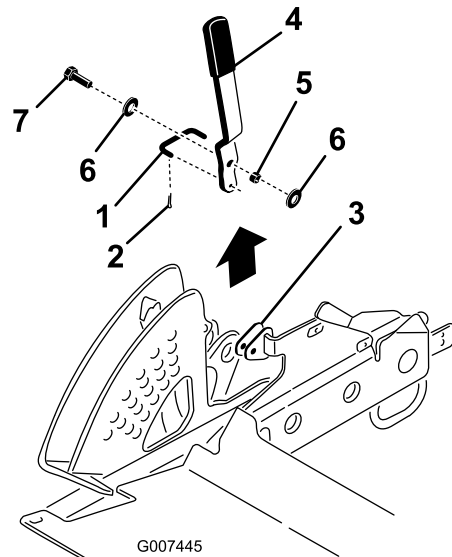

Figure 4
2. Remove the cotter pin securing the valve link to the lift lever (Figure 4). Remove the valve link from the lift lever. Retain all fasteners for installation of the new lift lever.
3. Remove the flange nut securing the lift lever to the frame (Figure 4). Carefully remove the bolt securing the washers, spacer and lift lever to the frame. Remove the lift lever.